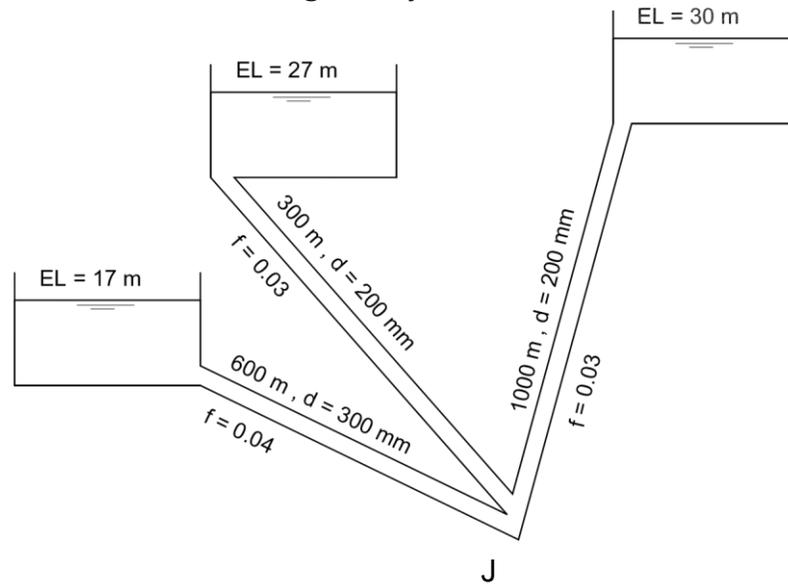

Fig.2
3. In Fig.2, find the flow rate through the system.